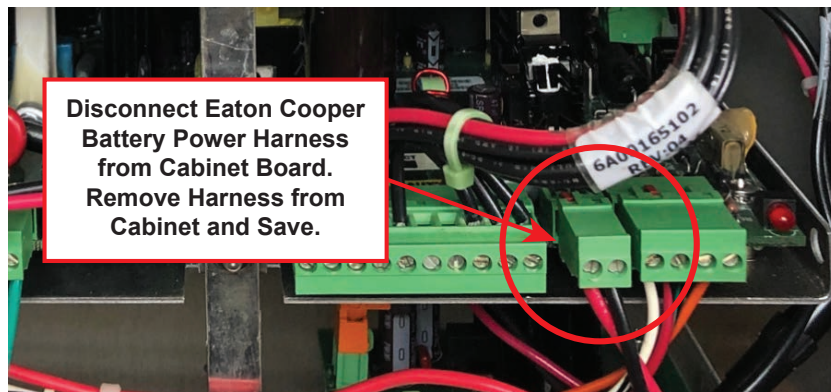

Figure 16 Eaton Cooper Battery Power Harness – Cabinet Board Location
5. Disconnect the Eaton Cooper Battery Power harness from the cabinet board (Figure 16). Remove the harness from the cabinet and save the harness, which will be used on the M-2406 Adapter Chassis.